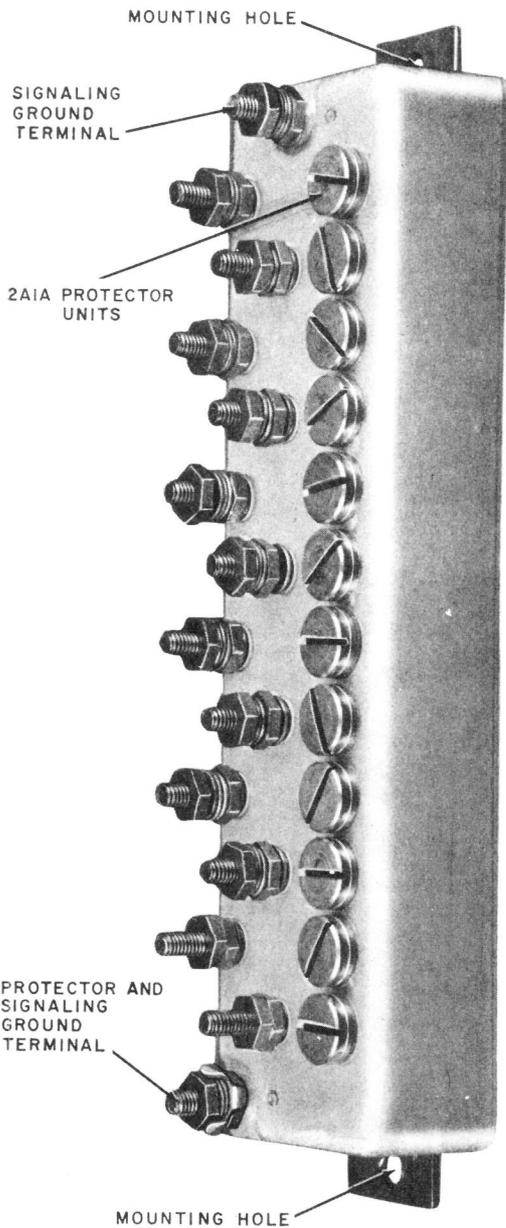

Fig. 9—117B Protector
**3.09** The 117B protector (Fig. 9) consists of a nonconductive base containing twelve binding posts, twelve 2A1A protector units, one binding post for signaling ground, and one binding post (equipped with a pronged washer) for signaling ground and protector ground. The 117B protector should be grounded with a wire no smaller than a No. 10 ground wire (see Table B). The 117B protector is designed for indoor use and is generally used with 6-pair multiple drop wire.